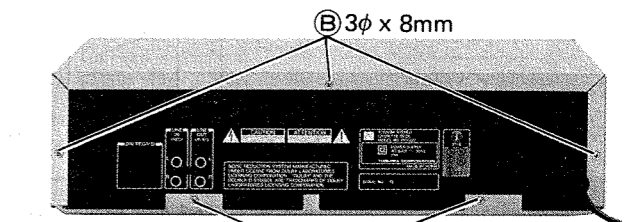

Figure 5
3. Remove two screws (C) (3φ x 8mm) then the bottom plate can be removed from the unit. (See Figure 5)